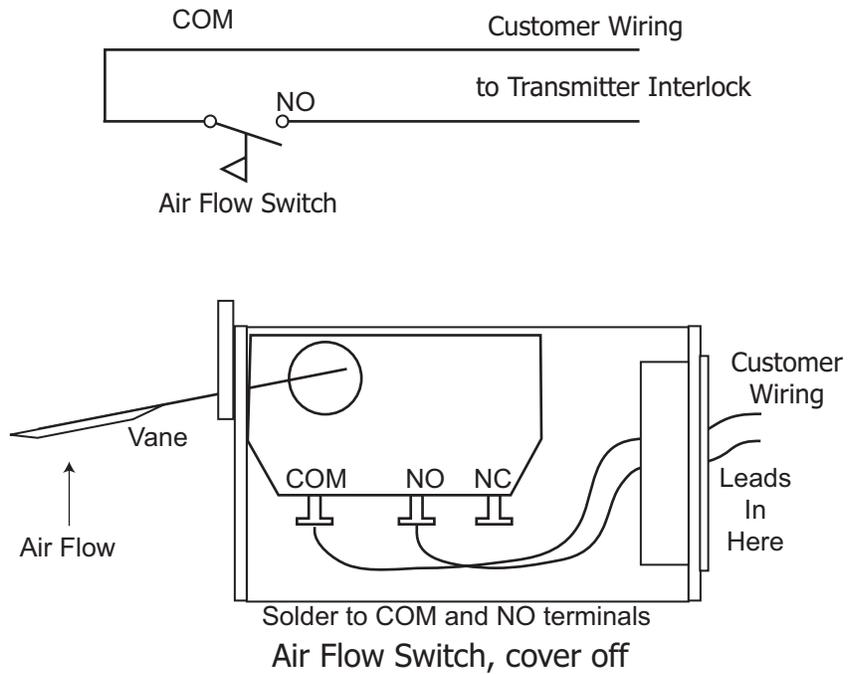

Figure 3. Air flow switch schematic (forced-air-cooled units only)
Each blower on a forced-air-cooled filter is provided with an air flow switch, shown in Figure 3 on page 5. This switch is intended to shut down the transmitter if cooling air flow is lost.
- c. Solder the interlock leads from your transmitter to the COM and NO terminals on the switch, as shown in Figure 3.